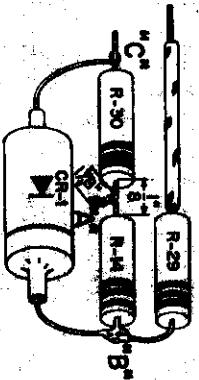

FIGURE 15A
- (✓) Twist one of the leads of R-14, a 1 megohm resistor (brown, black, green), with one of the leads of R-30, a 22,000 ohm resistor (red, red, orange). Solder and clip the excess leads. (Point "A" of Figure 15A.)
- (✓) Connect the lead from the banded end (cathode) of CR-1, the crystal diode, to point "B". See Figure 15A.
- (✓) Connect the other end of CR-1 to point "C". See Figure 15A.
- (✓) Position R-29, a 15,000 ohm resistor (brown, green, orange), as shown in Figure 15A. Solder one lead of R-29 to point "B". Cut off the excess leads from R-14, CR-1 and R-29 close to this soldered connection.